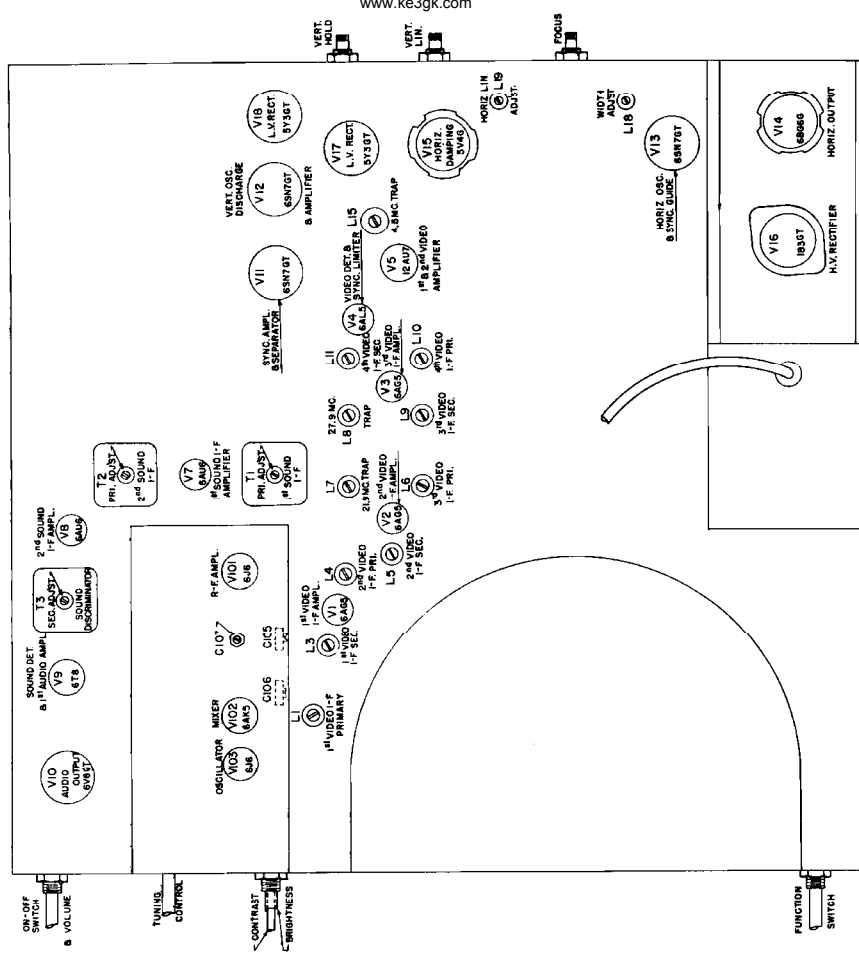

Figure 6. Chassis Top View Showing Tube and Alignment Locations
- To identify exact position of coils for all alignments see top and bottom chassis views Fig. 6 and Fig. 7.